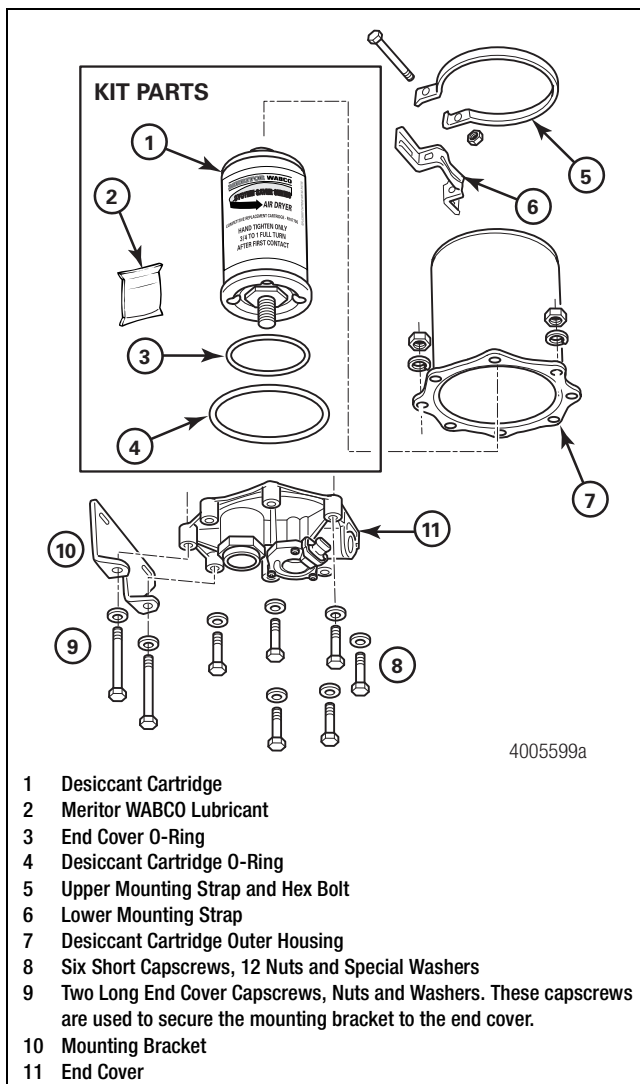

Figure 1
The replacement kit includes a desiccant cartridge, end cover O-ring, cartridge O-ring and Meritor WABCO lubricant. All other components shown must be carefully removed and retained for use in reassembly. Meritor WABCO does not provide these parts with the replacement kit. Figure 1.
- Tighten the upper mounting strap hex bolt and nut to 80-120 lb-in (9.0-13.6 N•m). Refer to Figure 1. ⚠